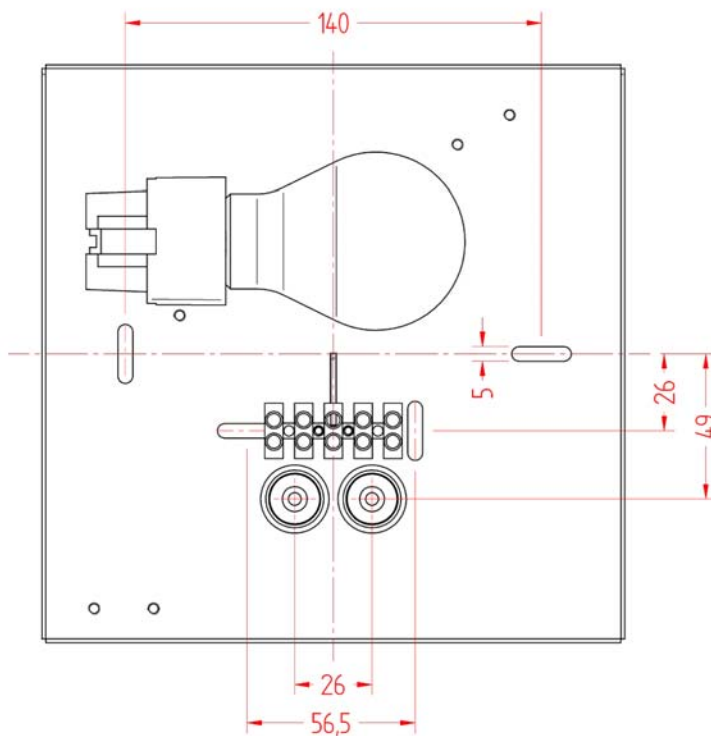

Fig. 2
- Mount the lamp on wall box or direct on wall. Max. two cable entries. See fig. 2.